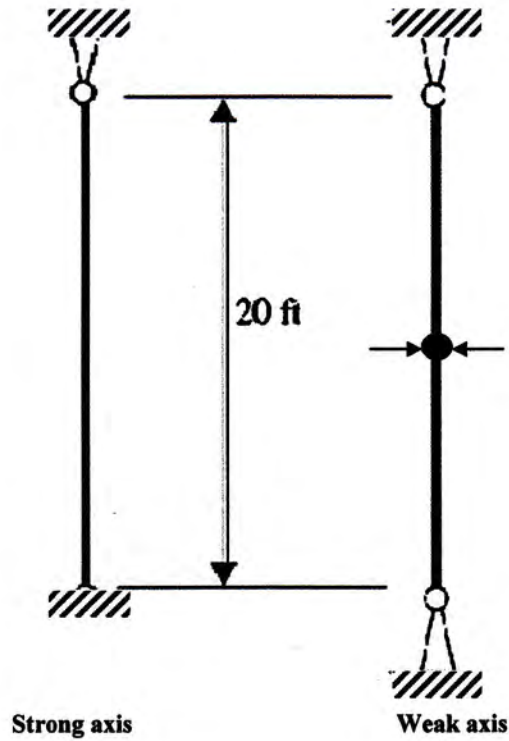

Figure 5
- 4.(a) Determine allowable compressive load carrying capacity of the 20 ft column shown in figure 5 using AISC-ASD method. It consists of W12x50 section having A992 Grade 50 steel. Support conditions are shown in the figure, and column has weak direction support (braced) at mid height. Given, $E= 29,000$ ksi. Necessary formulae, dimensions and properties of the section are given with the question. (17)